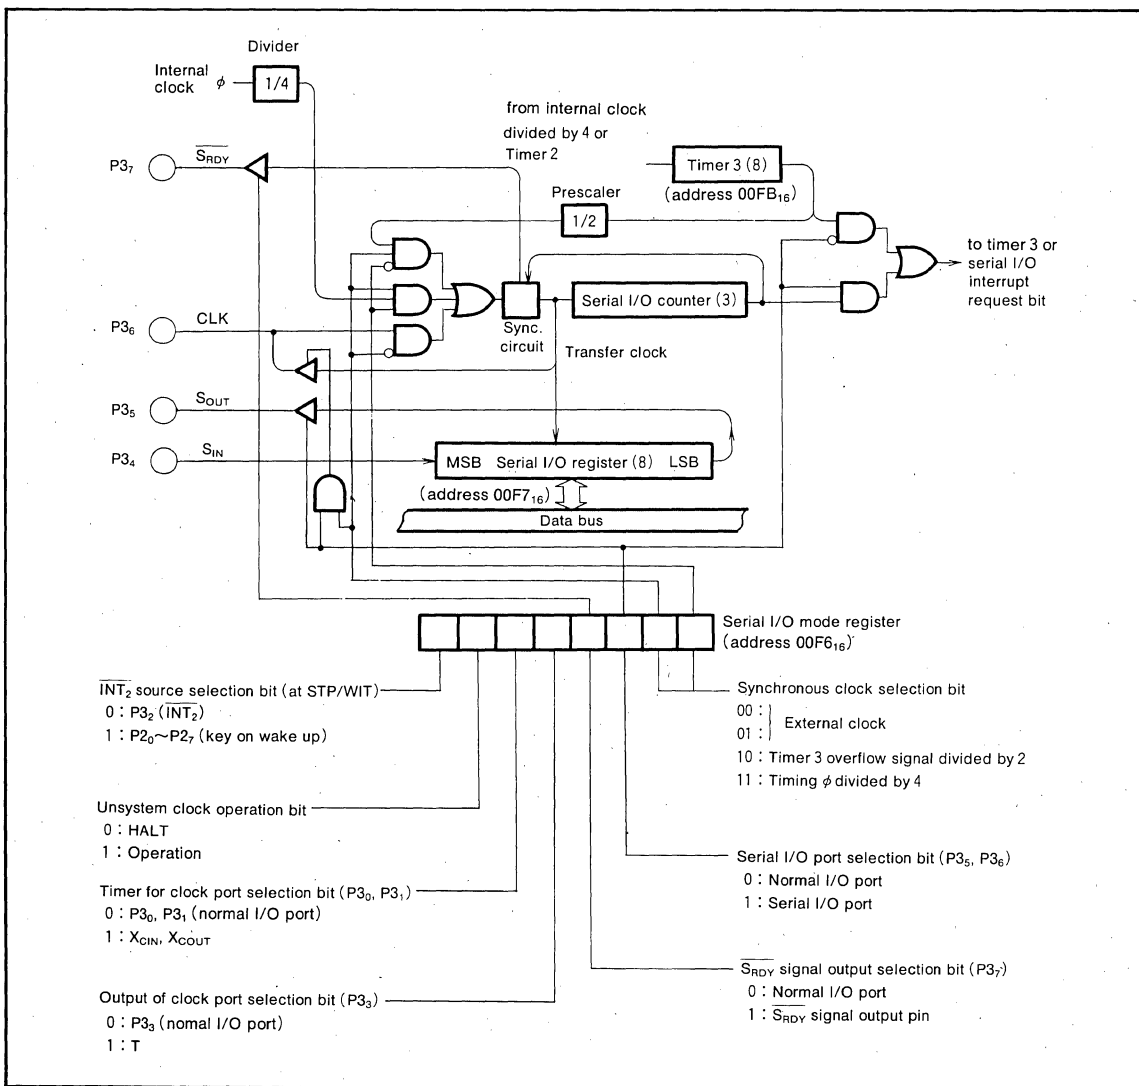

Fig.8 Block diagram of serial I/O
The block diagram of serial I/O is shown in Figure 8. In the serial I/O mode the receive ready signal ( $\overline{S_{RDY}}$ ), synchronous input/output clock (CLK), and the serial I/O ( $S_{OUT}$ ,  $S_{IN}$ ) pins are used as P37, P36, P35, and P34, respectively. The serial I/O mode register (address 00F616) is an 8-bit register. Bit 0 and 1 of this register is used to select a synchronous clock source. When these bits are (00) or (01), an external clock from P36 is selected. When these bits are (10), the overflow signal divided by two from timer 3 becomes the synchronous clock. Therefore, changing the timer period will change the transfer speed. When the bits are